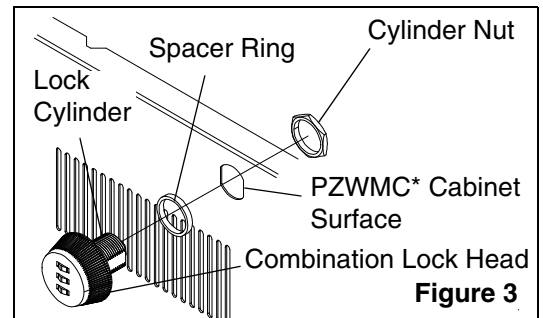

Figure 3
- Remove the Cylinder Nut from the Combination Lock and insert the Spacer Ring over the Lock Cylinder. (Figure 3)
- Install the Combination Lock onto the Cabinet and tighten the Cylinder Nut. The Lock Head should be spaced away from the Cabinet Surface. (Figures 3 & 4)